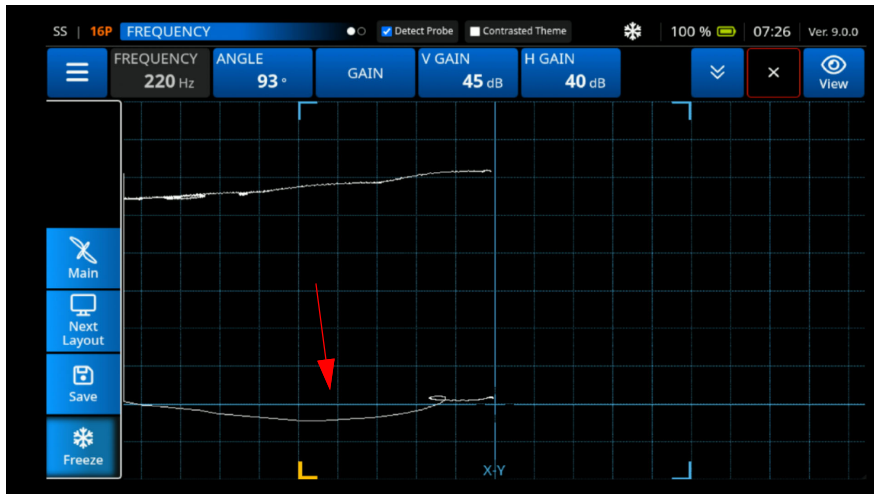

Figure 3-74 Adjust the Angle Setting
- Using the **Angle** setting and the knob, fine-tune the lift off signal to reach the left horizontal position (See Figure 3-74 on page 97).